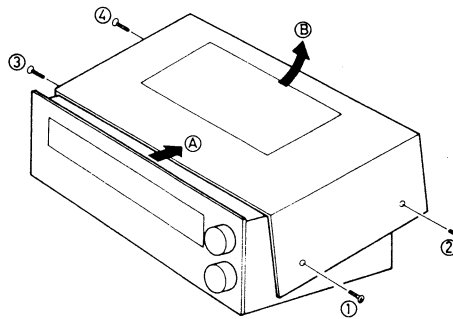

Fig. 7
2. Remove the four cabinet mounting screws (nos ①~④ screws in fig. 7).
3. Sliding it toward (A) direction and lifting it upward (B) direction as shown in fig. 7.